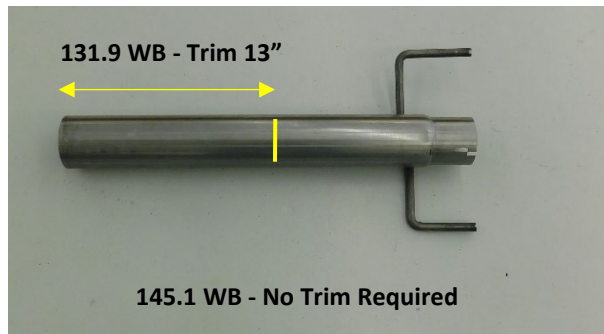

Figure.2
- 131.9" (Access Cab w/6ft bed or Double cab w/5ft bed) - Requires 13" be trimmed from the inlet pipe. **Fig.2**